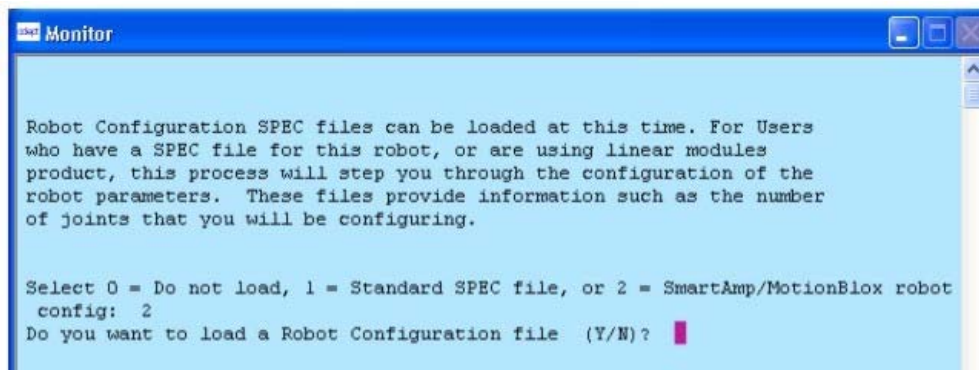

Figure 4-6. DC_SETUP (JTS Coordinated-Joint-Control Module)
2. Select option 2 "Configure Adept robot/axis gadgets" and press ENTER. A screen similar to Figure 4-6 will be displayed.